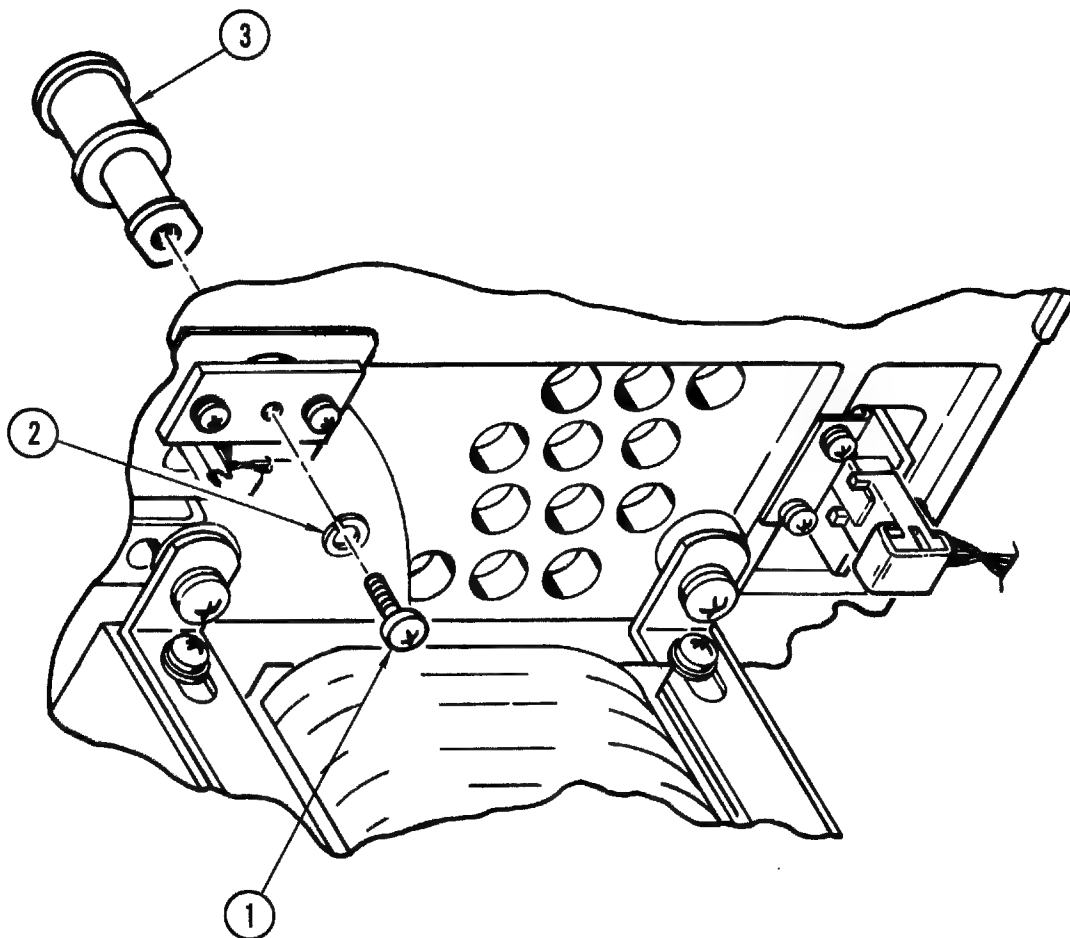

Figure 4-21. Tape Guide Assembly (Solid)
**4-35. Removal and Replacement (Figure 4-21).** Place the transport in service access position in accordance with instructions in paragraph 4-3 and proceed as follows:
- a. Remove attaching screw (1, Figure 4-21) and lockwasher (2), and leaving shims in place remove tape guide assembly (solid) from top of top plate. Save attaching parts for reinstallation.
- b. Reinstall tape guide assembly (solid) (3) in reverse order of step a.